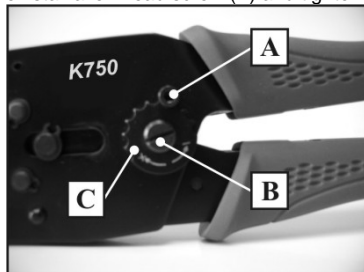

Fig.5.
1. Loosen and remove allen head screw (A) using a 2.5 mm allen wrench. (Fig.5.)
2. Using a screw driver turn eccentric axle (B) and toothed adjustment wheel (C) into new position.